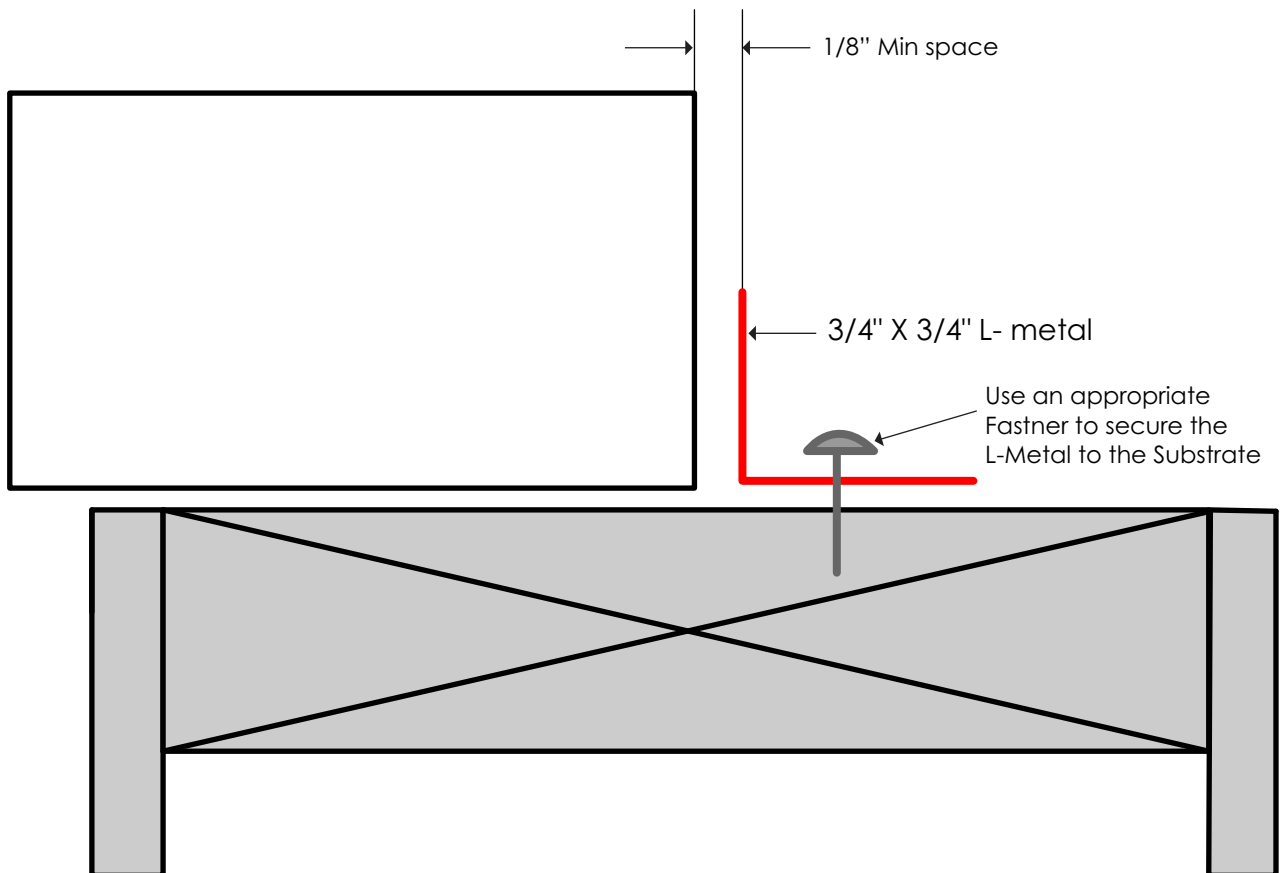

FIG 33
- Install 3/4" x 3/4" aluminum L-metal the full length of the sill as the raised leg of the liquid applied flashing pan. **[FIG 33]**